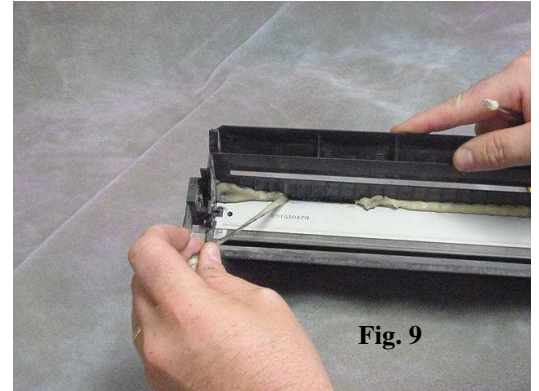

Fig. 9
9. Once it is scored with the knife it is easier to remove. (Fig. 9)